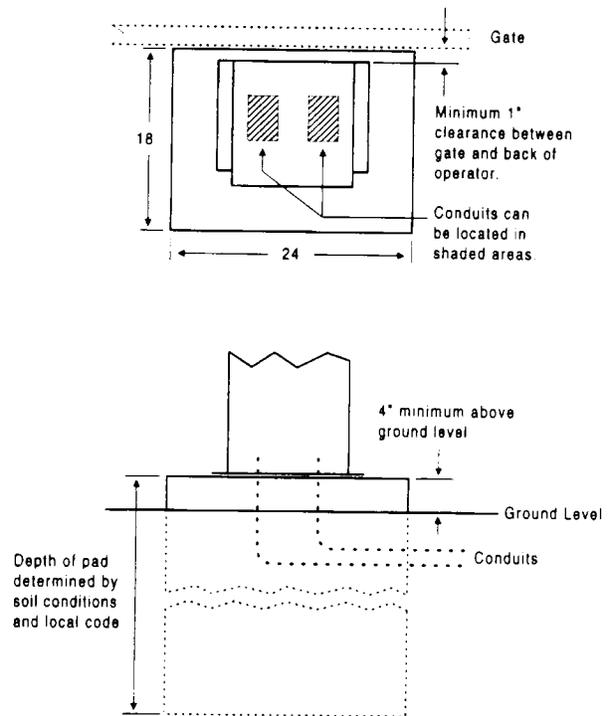

FIGURE 1.5.1
1. Construct a form for the mounting pad according to the specifications shown in figure 1.5.1. Be sure to level the top edge of the form and that the top of the form is a minimum of four (4) inches above ground level.